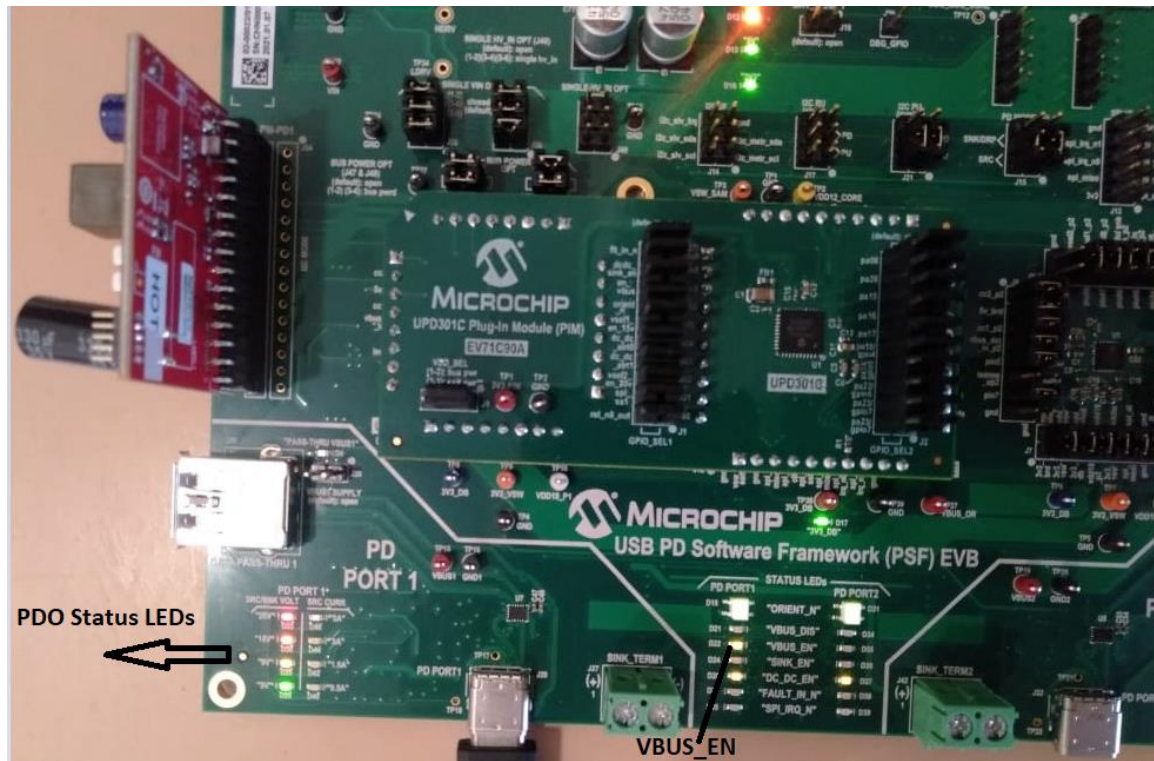

Figure 7.2 VBUS_EN and PDO Status LEDs after device attach
- Once an explicit power contract negotiation is in place, the device starts charging. VBUS_EN LED will turn on along with the PDO status LEDs indicating the negotiated voltage as shown in Figure 7.2
- In our case, UPD301C Basic Sink AE requested 20V. The status of VBUS_EN and PDO status LEDs is shown in Figure 7.2.